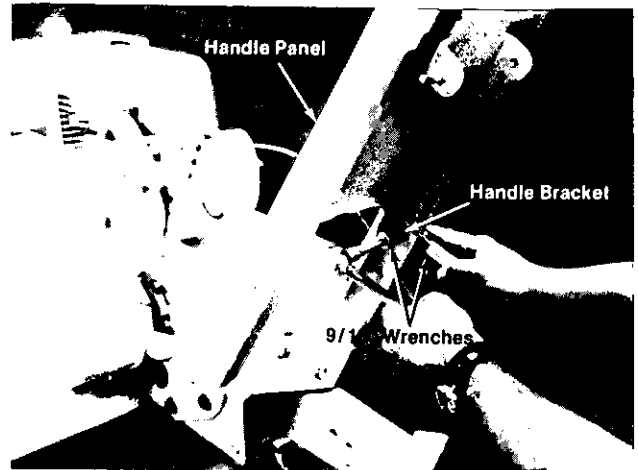

FIGURE 7.
The handle panel is attached by sliding it down over the handle brackets on the chassis and installing four hex bolts in the lower holes of the handle panel. Place bolts through the handle panel; head to the outside. See figure 7.
Four hex bolts (I), lockwashers (J) and hex nuts (K) will be found in the hardware pack. See figure 7.